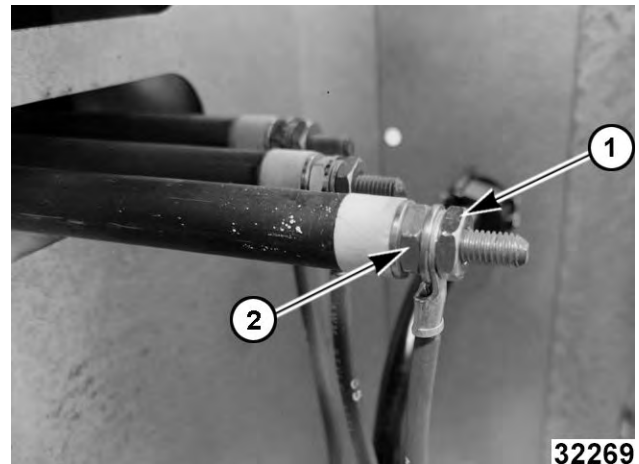

Fig. 13
3. Remove nuts (1, Fig. 13) from element wiring connections.
Use second wrench on nut (2, Fig. 13) behind terminal when removing or installing to prevent element stud from twisting and getting damaging.